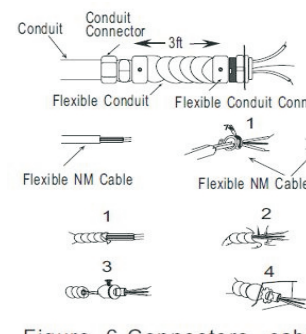

Figure 6
2. Attach the cable connectors to the unit (See Figure 6) and slide the 10-gauge wire through the cable connector.
NOTE: All wiring must be carried out by a Certified Electrician and must be in accordance to national and local electrical codes in the United States. For certain applications, conduit may be required, See Figure 6. Check local electrical codes. If you run the wiring in conduit and wish to be able to turn the heater be sure to purchase enough flexible conduit to allow the heater to be turned.